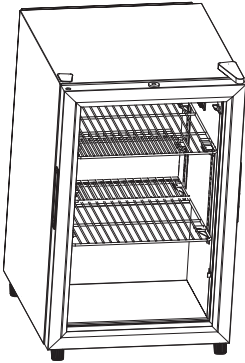

Figure 1
1. Remove the top hinge cover and cover plate and then the hinge screws. (Fig. 1, 2)